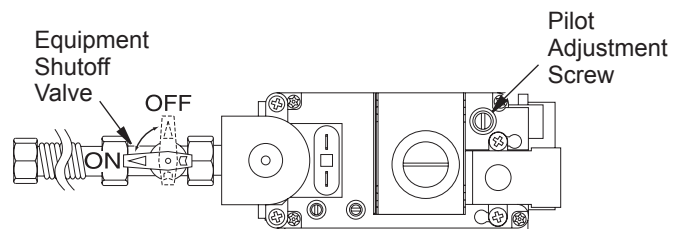

Figure 42 - Turning Equipment Shutoff Valve to the OFF Position
5. Turn equipment shutoff valve clockwise to the OFF position (see Figure 42). Do not force.
6. Wait five (5) minutes to clear out any gas. Then smell for gas, including near the floor. If you smell gas, **STOP!** Follow "B" in the safety information in column 1. If you don't smell gas, go to the next step.
- Turn the adjustment screw marked PILOT clockwise to decrease or counterclockwise to increase the flame to proper size (see Figure 42, page 23). Do not remove the adjustment screw.